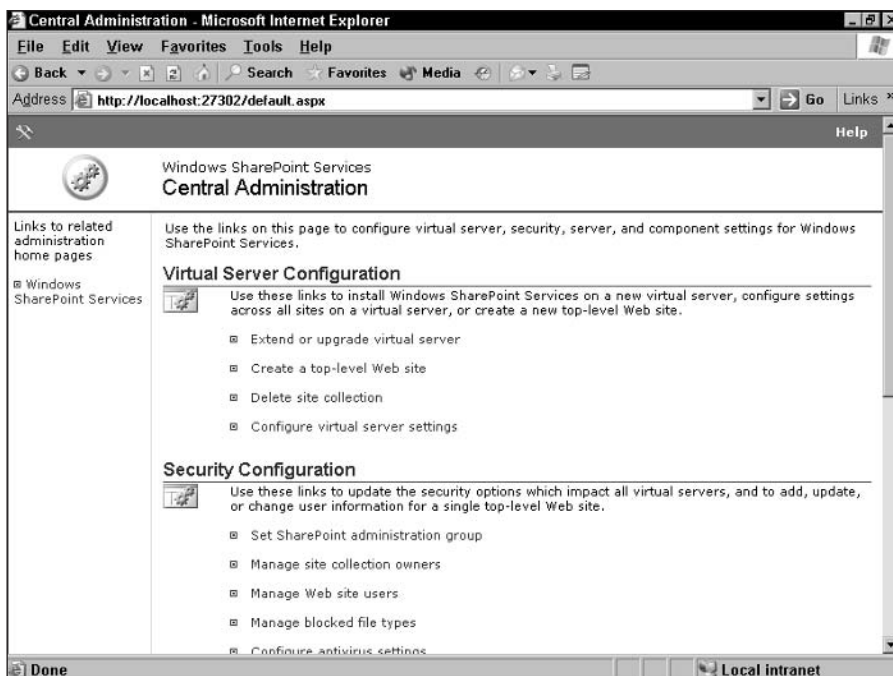

Figure 18-16: The WSS Central Administration page.
3. Enter the database server name and an SQL Server database name (any name that does not already exist). In the Database connection type section, select the Use SQL authentication option button and enter the database account user name and password. Scroll down, and click the OK button. The Windows SharePoint Services Central Administration page appears (see Figure 18-16).